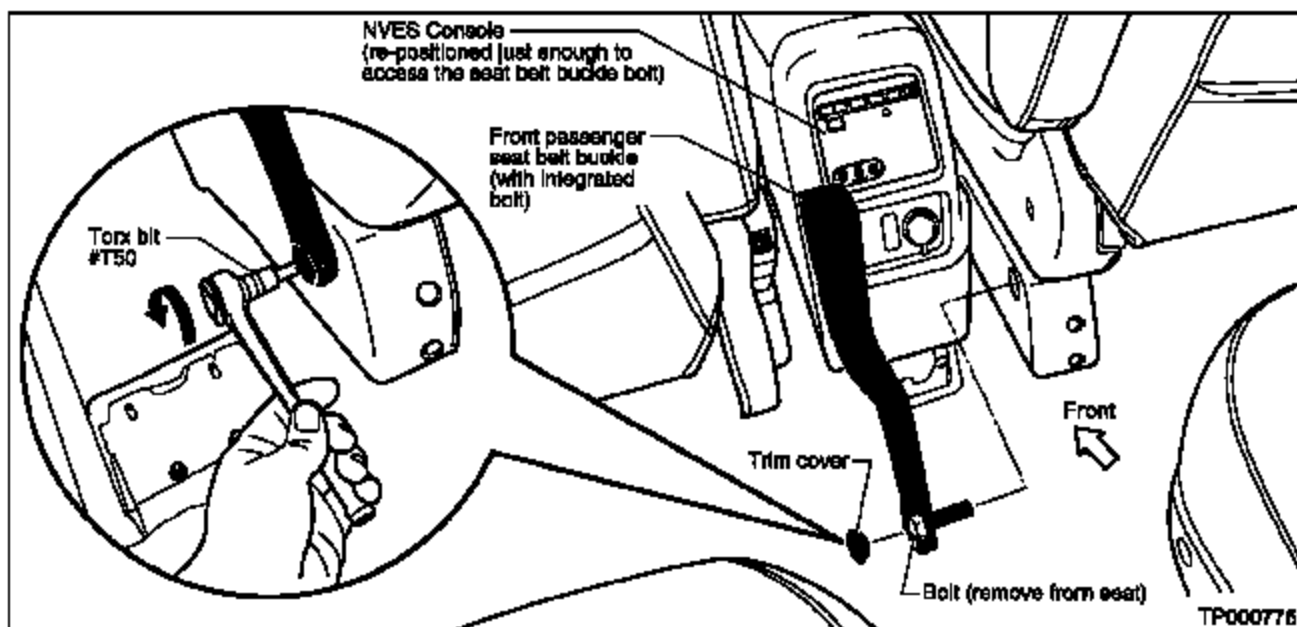

Figure 15
2. Unscrew (using a Torx-bit #T50) and remove the trim cover over the seat belt buckle mounting bolt (see Figure 15).
3. Unscrew the bolt and remove the front passenger seat belt buckle (see Figure 15).
6. Re-install the trim cover over the seat belt buckle mounting bolt (see Figure 15).